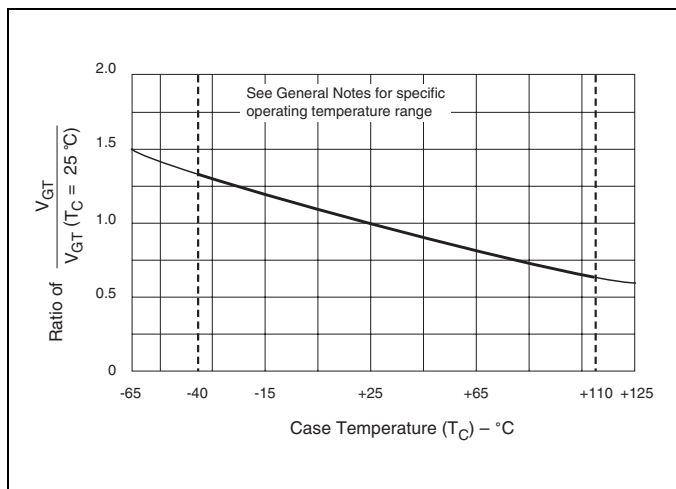

Figure E5.12 Normalized DC Gate-Trigger Voltage versus Case Temperature
- (4) See Figure E5.12 for  $V_{GT}$  versus  $T_C$  or  $T_L$ .